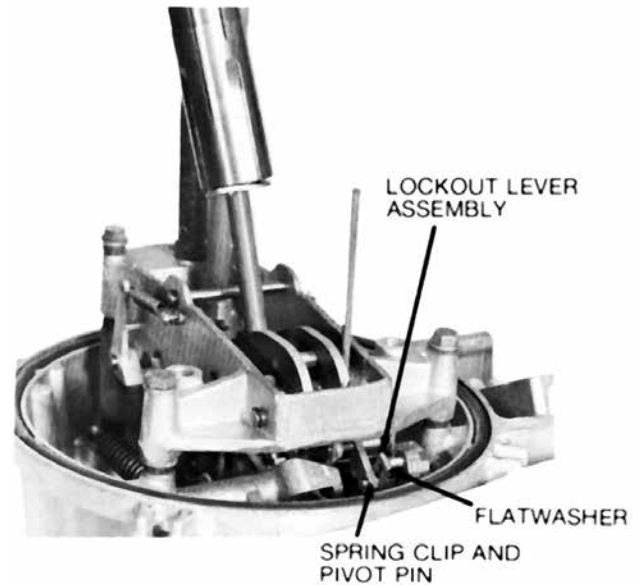

Figure 39. Disconnecting lockout lever assembly link
4. Disconnect the lockout lever assembly link by removing the spring clip and pivot pin. Note the flatwasher used between the two links (Figure 39).